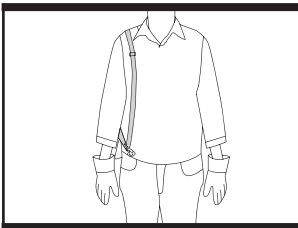

Fig. 11b
- 2). Place the harness so that it runs over the right shoulder, NOT crossing the chest and back. The securing point must be located at the right hip. (See Fig. 11b)